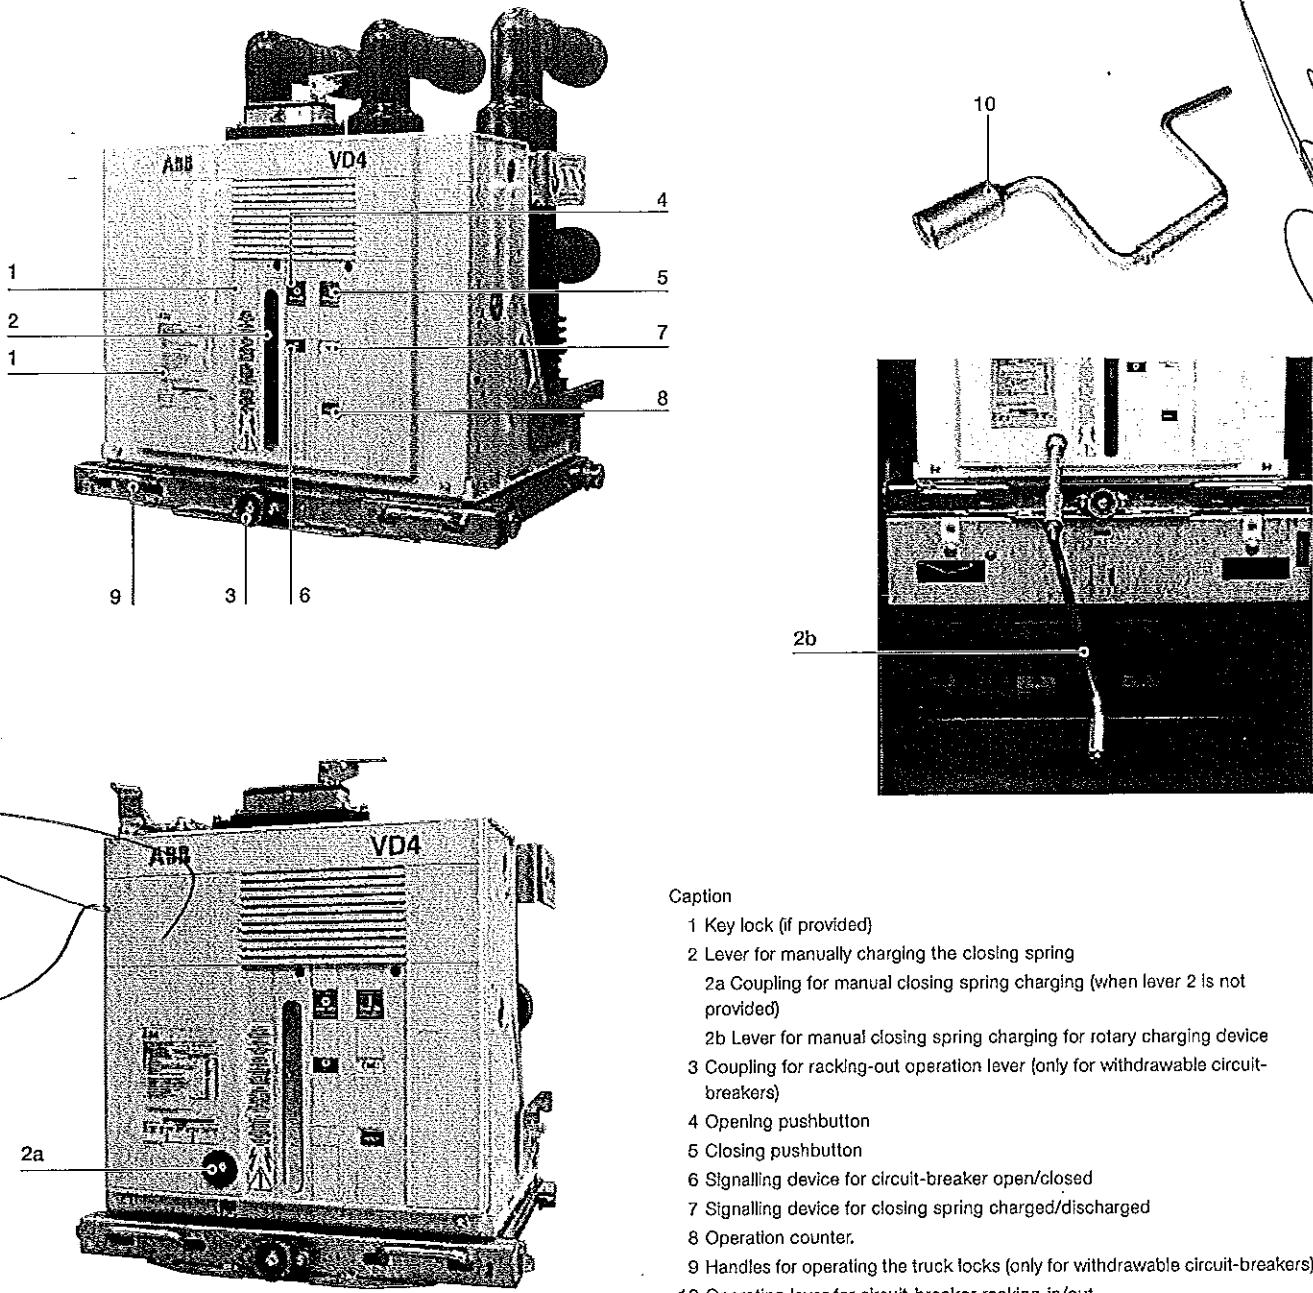

Fig. 6b
- 2 Lever for manually charging the closing spring (except version VD4/ZS8 - see figure 6b)
a2) Closing spring loading in the manual mode for withdrawable VD4 circuit-breakers for UniGear switchgear equipped with a hand-operated rotary loading device for the closing spring (refer to fig. 6b for indicative details)
WARNING (fig. 6b): Fit the hand-operated loading lever of the closing spring (2b) into its housing (2a). Turn the lever clockwise (about 12 times) until the yellow indicator (7) appears to show that loading is complete. Once this happens, the lever will continue for half a turn without loading (without exercising any force), after which it will lock owing to a sudden load increase. Do not exercise force or try to continue loading as this will damage the device.
VD4 circuit-breakers for ZS8.4 switchgear (fig. 6b)
For manual closing, press the pushbutton (5 - fig. 6b).
When there is a shunt closing release, the operation can also be carried out remotely by means of a special control circuit. Closing having taken place is indicated by the signalling device (6 - fig. 6b).
For manual opening, press the pushbutton (4 - fig. 6b).
When there is a shunt opening release, the operation can also be carried out remotely by means of a special control circuit. Opening having taken place is indicated by the signalling device (6 - fig. 6b).